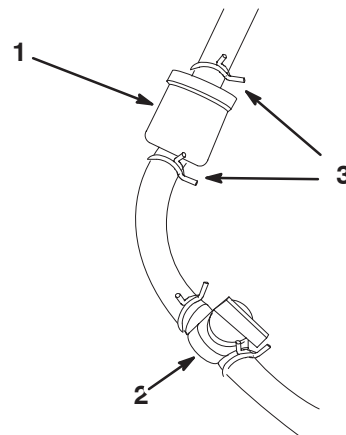

Figure 41
4. Close the fuel shut-off valve (Fig. 41).
5. Squeeze the ends of the hose clamps together and slide them away from the filter (Fig. 41).
7. Install a new filter and move the hose clamps close to the filter to secure the fuel line (Fig. 41).